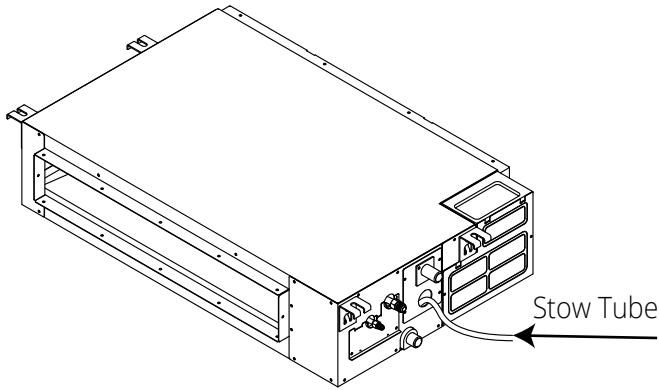
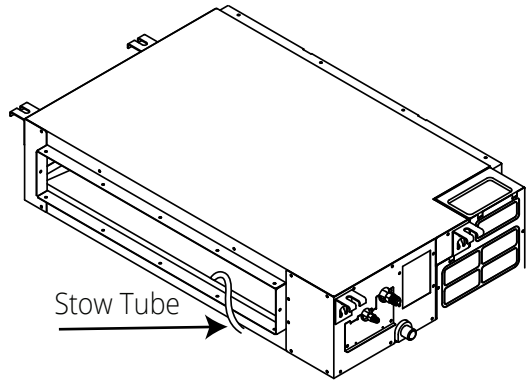

Fig. 9.3
Fig. 9.4
5. Stow 2000ml water to the water pan through the stow tube, and check whether the drainpipe is unhindered. See **Fig. 9.3** and **Fig. 9.4** (on the next page) for tube locations for units with or without pump.